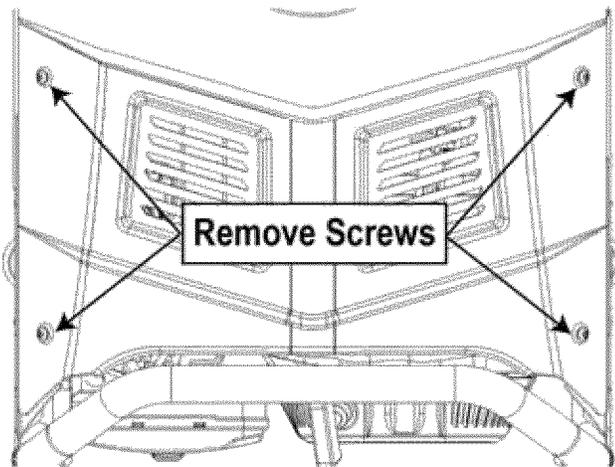

**Figure 4-1: Oil Drain Plug**
1. Clean area around oil drain plug (Figure 4-1).